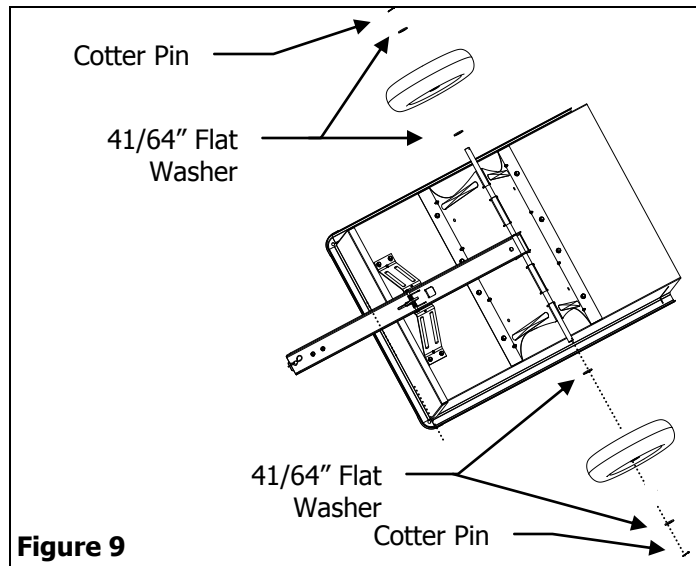

Figure 9
9. Place one 41/64" Flat Washers on each side of Axle next to Undercarriage. Next place Wheel onto Axle, add one or two 41/64" Flat Washer on outside of wheel. Secure Wheel in place by inserting Cotter Pin through hole in the end of Axle and spreading the legs of the Cotter Pin outward. Repeat the Wheel attachment step for the other wheel. See Figure 9.